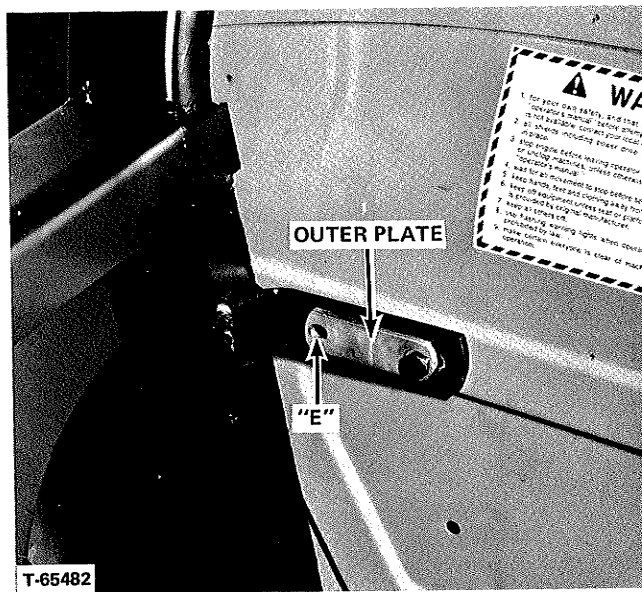

FIGURE 6
- b. Bolt the loose outer plate on the inside of the frame clip with a .375" bolt in hole "D" and use it as a template to locate and drill another .406" hole "E" in the wheel guard through the rear slot in frame clip. Figure 6.